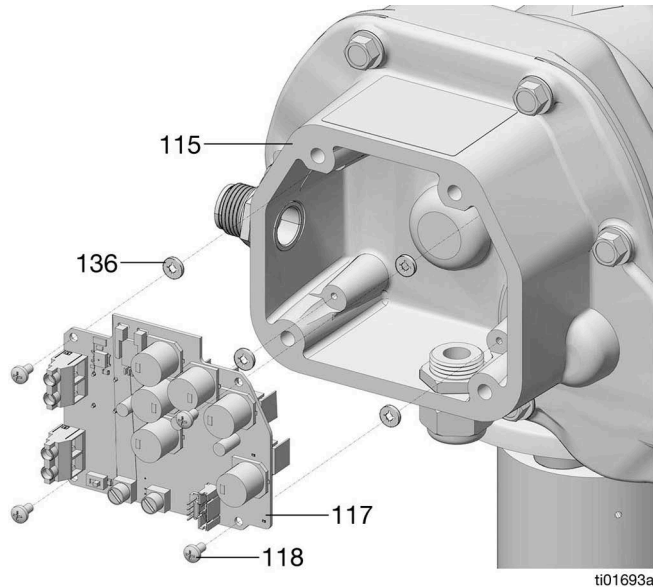

FIG. 69
1. Install the new motor control board (117) in the housing (115) using the screws (118) and washers (136), with the washers between the board and the housing (FIG. 69). Torque to 18 - 22 in-lb (2.0 - 2.5 N•m).